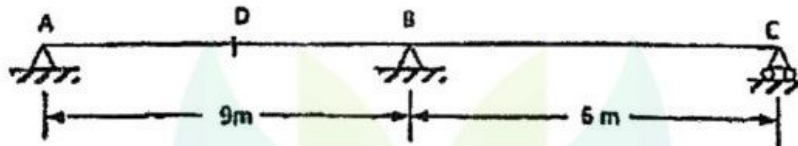

Figure 3
- (b) Using Muller Breslau principle, draw the influence line diagram for the bending moment at D, the middle point of span AB of a continuous beam shown in figure 3. Compute the ordinates at 1m interval. Determine the maximum hogging bending moment in the beam when two concentrated loads of 8kN each and separated by a distance 1m passes through the beam from the left to right.